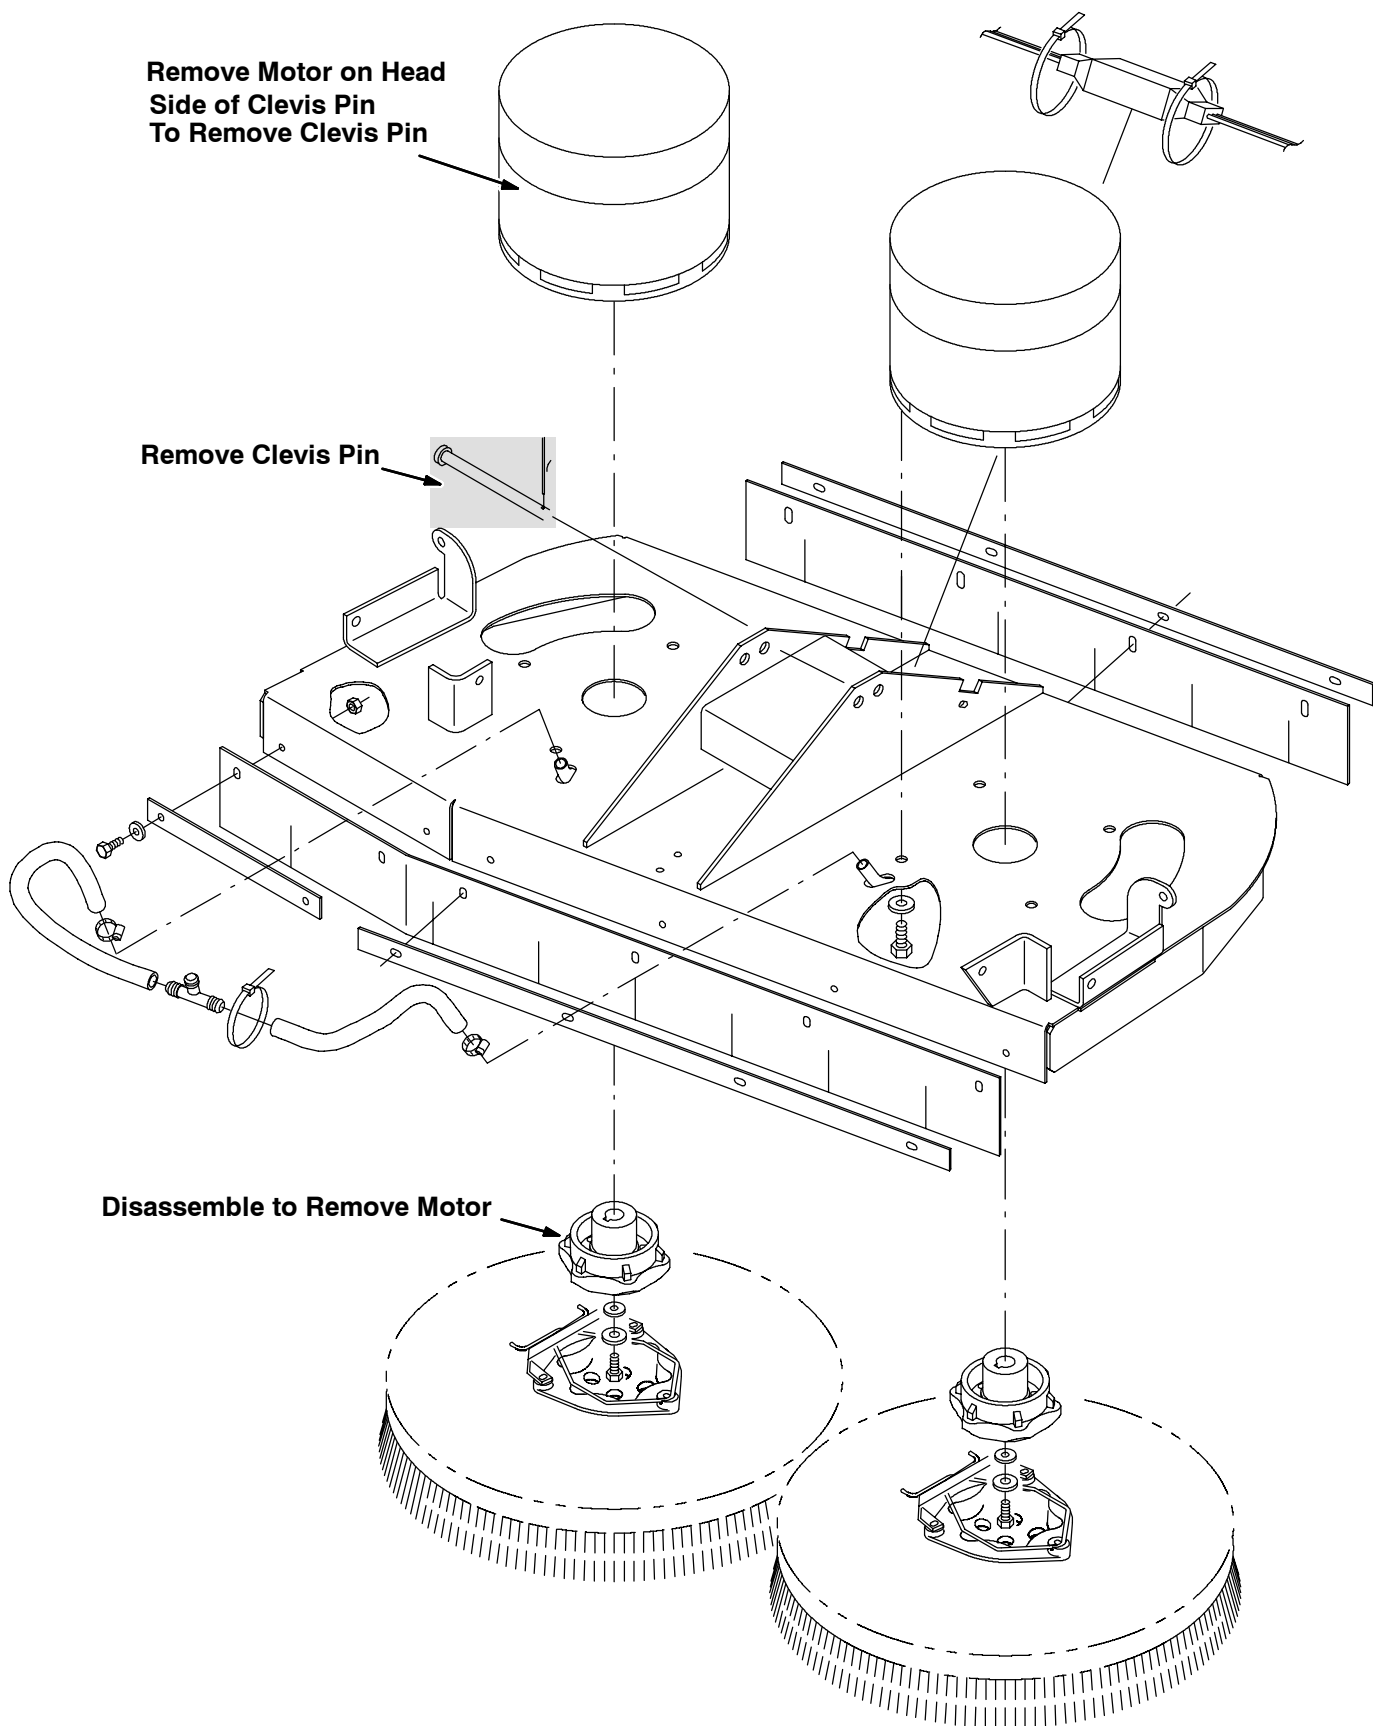

FIG. 4-Disk Brush System, Motor Removal
10. Remove the scrub brush on the head side of the clevis pin. Refer to Fig. 4.
11. Remove the brush drive hub. Set aside the brush, hub and mounting hardware. Refer to Fig. 4.
12. Carefully turn the scrub head over and remove the four bolts mounting the brush motor to the disk weldment. Refer to Fig. 4.
13. Lift the brush motor off the head weldment. Refer to Fig. 4.
16. Reassemble the motor assembly. Refer to Fig. 4.